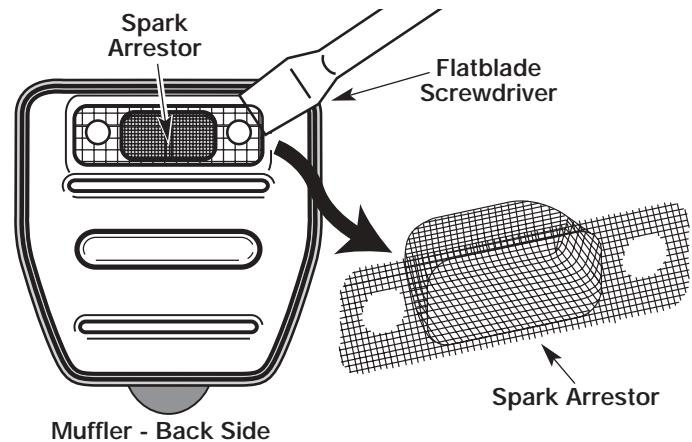

Fig. 27
4. Using a small flatblade screwdriver, carefully pry up the spark arrestor from the recessed hole (Fig. 27). Remove the spark arrestor from the muffler.
5. Clean the spark arrestor with a wire brush. Replace it if it is damaged or if it is impossible to clean thoroughly (Fig. 27).